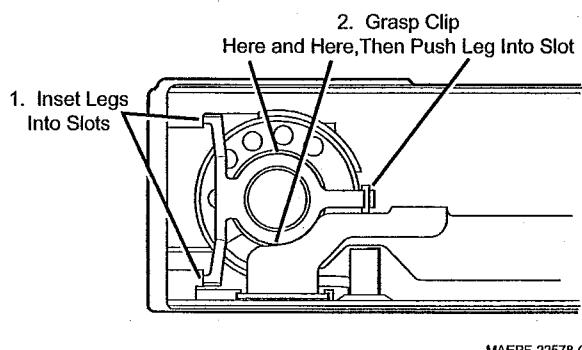

Figure 3.10
3. Reinstall the speaker retainer bracket (See Figure 3.10).